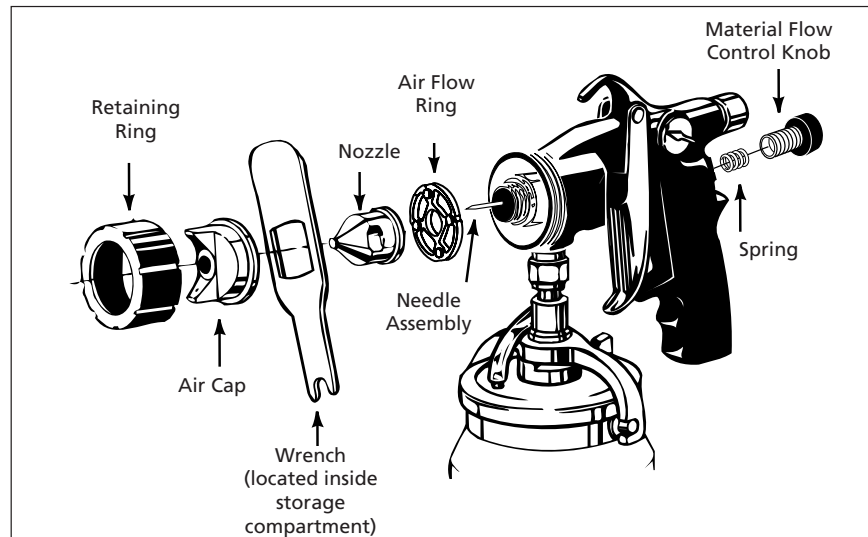

Figure 5 - Needle/Nozzle Installation
5. Remove the retaining ring, air cap, nozzle, material control knob, spring, and needle assembly (Fig. 5).